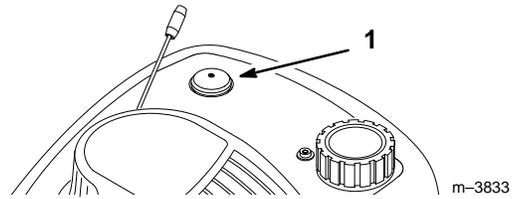

Figure 9
2. Push the primer three times (Fig. 9). Wait about two seconds between each push.